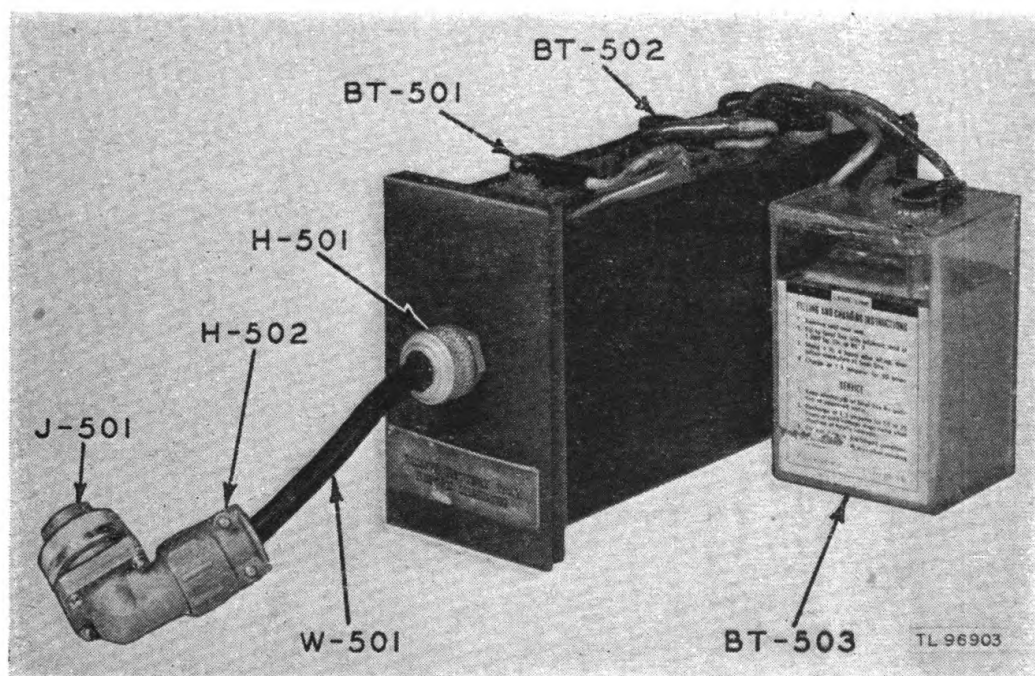

Figure 3. Battery Tray MT-352 with one battery removed.
e. Battery Tray MT-352 (fig. 3). Three Batteries BB-206/U, connected in series, are mounted in the steel chassis tray. A cord $3\frac{1}{2}$ inches long with a connector on one end and connected to the battery terminals on the other end protrudes from the front of Battery Tray MT-352. The batteries are shipped dry-charged and electrolyte must be added before use according to instructions on the batteries.